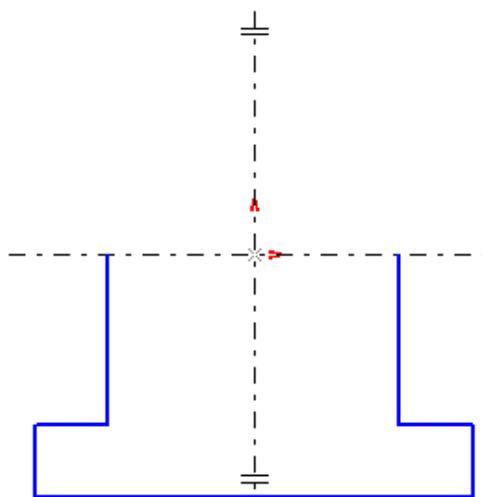

Figure 2-46 Sketch after creating the lines
- d. Create the sketch in the third quadrant; the sketch will automatically mirrored to other side, refer to Figure 2-46
The sketch after creating the lines is shown in Figure 2-46.